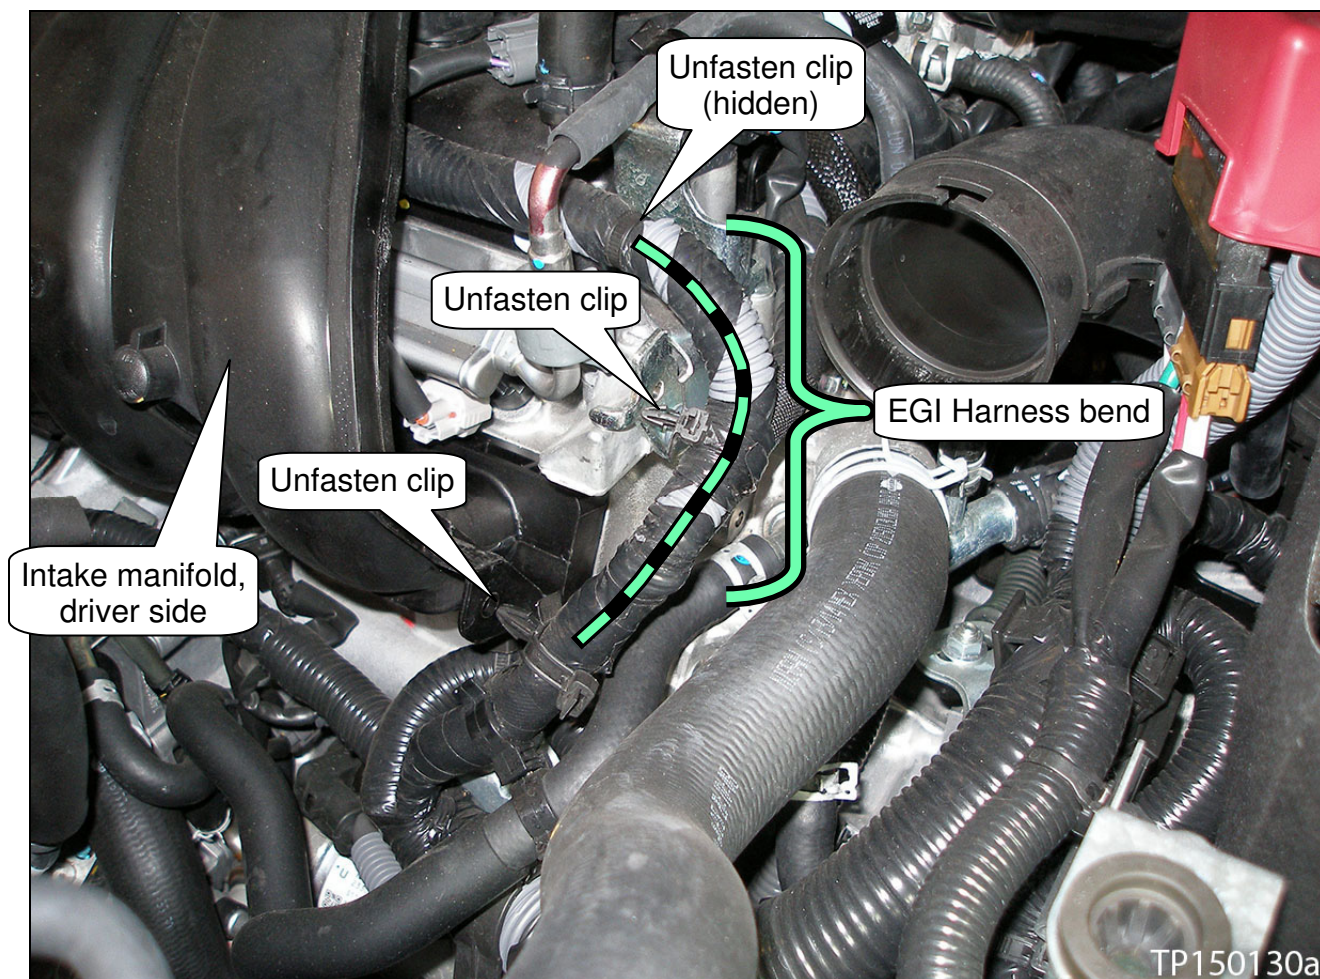

Figure 1
4. Locate the bend in the EGI harness where shown in Figure 1.
5. Unfasten the three (3) clips where shown in Figure 1.